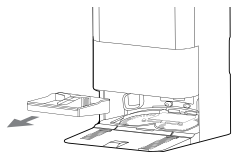

Fig. 24
1. Gently tap the center handle of the base station chassis and pull upward to remove the docking station cleaning tray (wash plate). [Fig. 24]